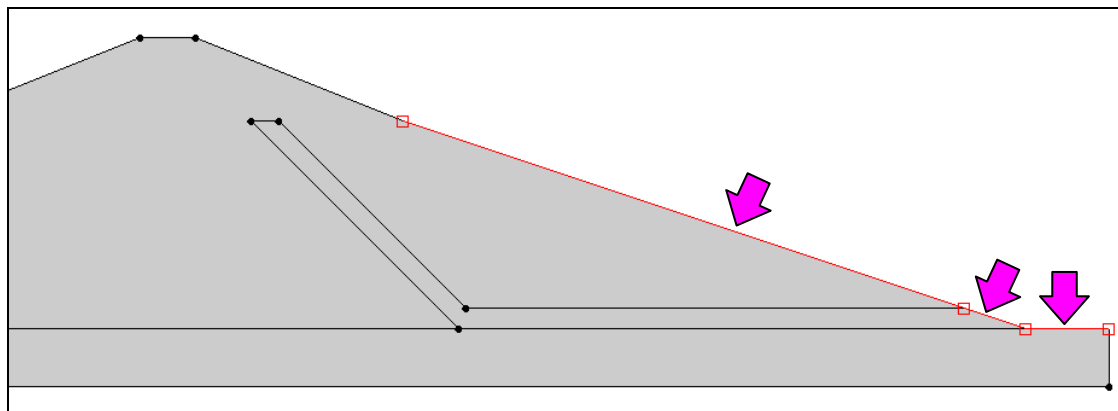

Figure 8. The exit face arcs.
2. Double-click one of the three arcs highlighted in Figure 8 below.